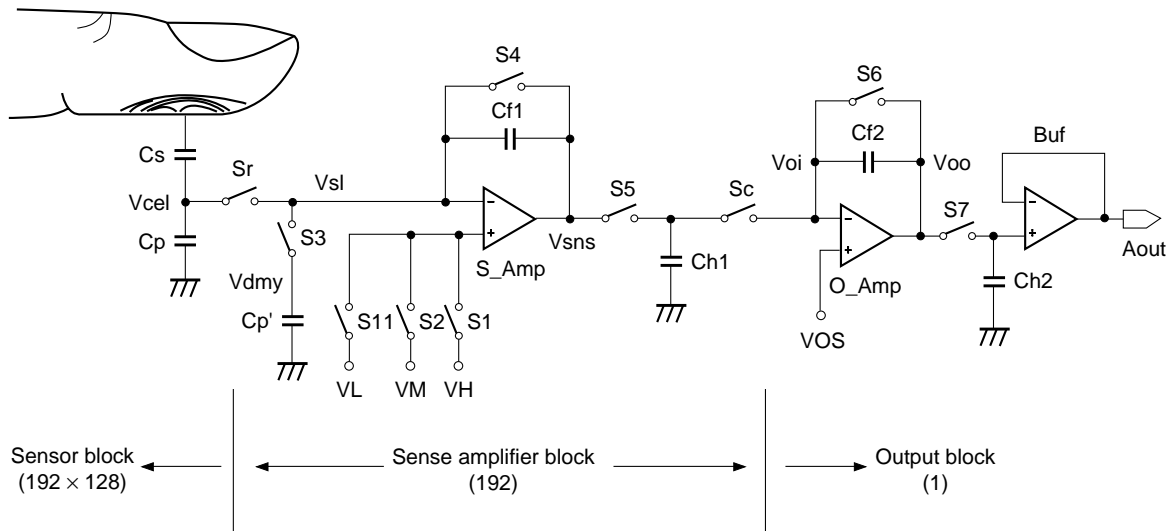

Fig. 2
• **Fingerprint sensor operation (Fig. 2)**